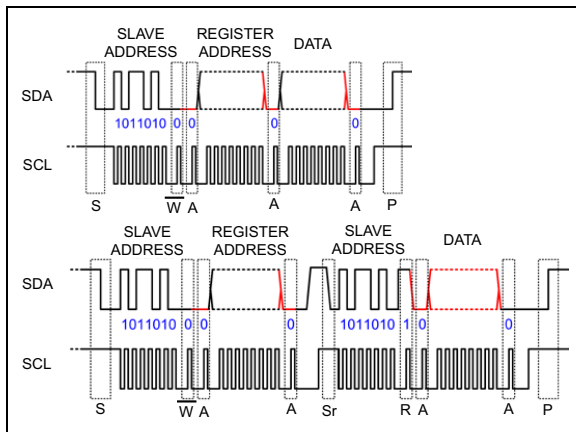

FIGURE 5-1: I²C Timing Example.
Figure 5-1 shows the communications required for write and read operations via the I²C interface. The black lines show master communications and the red lines show the slave communications. During a write operation, the master must drive SDA and SCL for all stages, except the Acknowledgment (A) shown in red, which is provided by the slave (MIC2870):